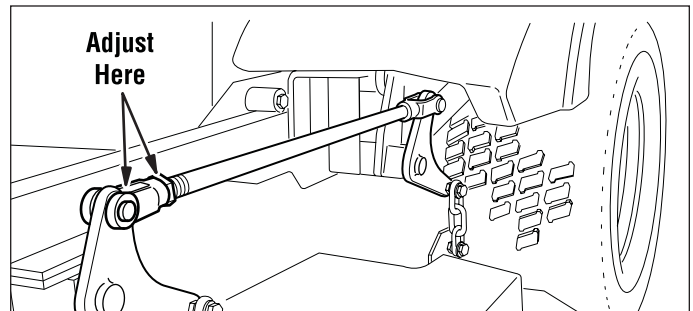

Figure 9. Adjust Lift Rod Timing
7. See Figure 9. To adjust the lift rod, loosen the jam nut on the clevis then remove the 1/2" clevis pin fastening the clevis to the lift pivot arm. Turn the clevis clockwise to shorten the distance between the rod pivots or counterclockwise to lengthen the distance between the rod pivots. Reinstall the clevis on the lift pivot arm and secure with the 1/2" clevis pin previously removed. Tighten the jam nut against the clevis.